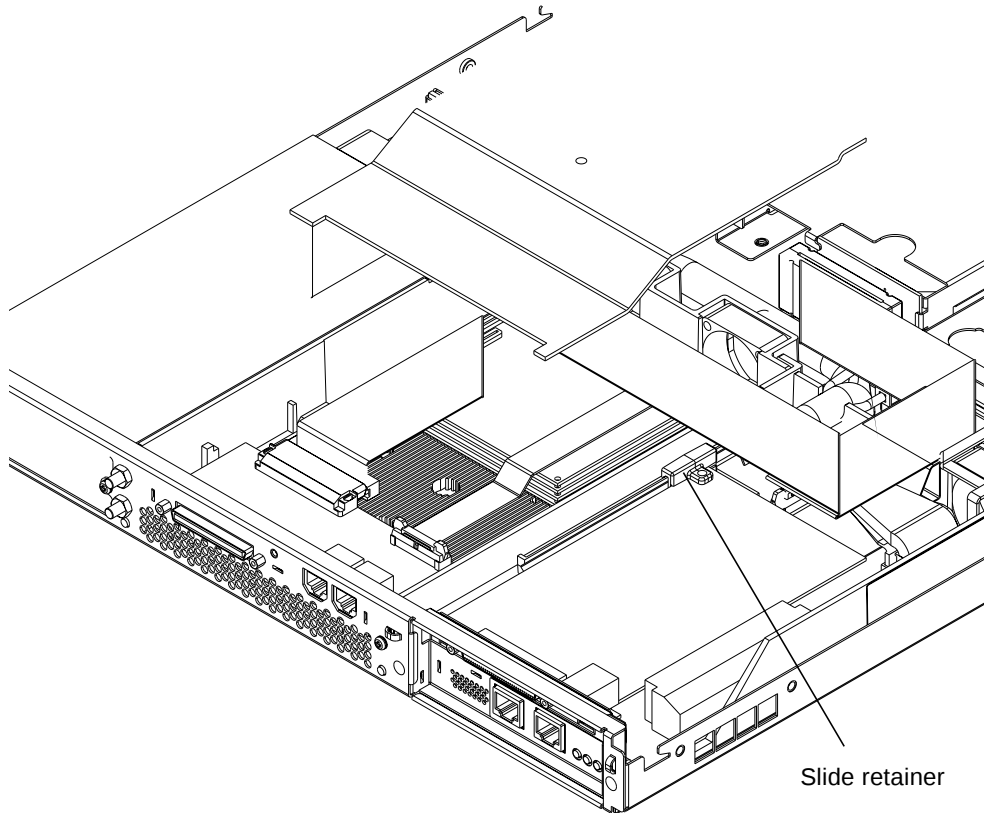

FIGURE B-7 Using the Slide Retainer to Hold the Corner of the PCI Card in Place
- 3. Push the slide retainer forward to hold the corner of the PCI card in place (see FIGURE B-7).**